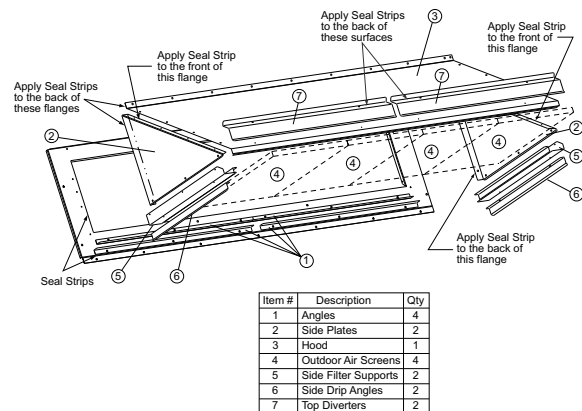

Fig. 23 — Hood Part Identification and Seal Strip Application Areas
See Fig. 23 for identification of the various parts of the hood assembly.
3. Apply seal strip to mating flanges on the side plates of the hood (see Fig. 23).